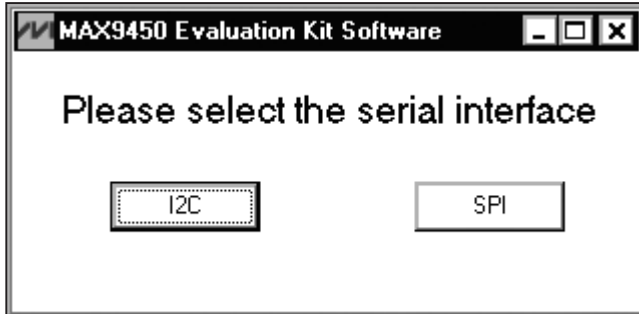

Figure 1. MAX9450 EV Kit Software—Interface Selection Window
- 13) Start the MAX9450 EV kit software by opening its icon in the **Start** menu. A small window appears, as shown in Figure 1.